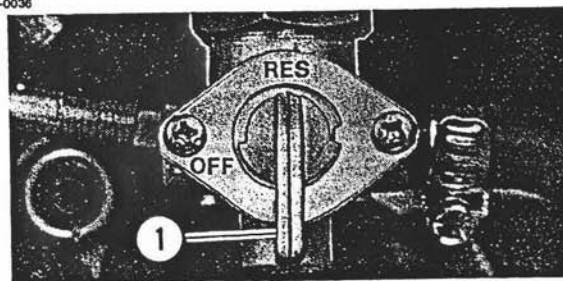

Figure 4-3. Fuel Control Valve in ON Position
- Step 2. See Figure 4-3. Check to see that fuel control valve lever (1) is ON.